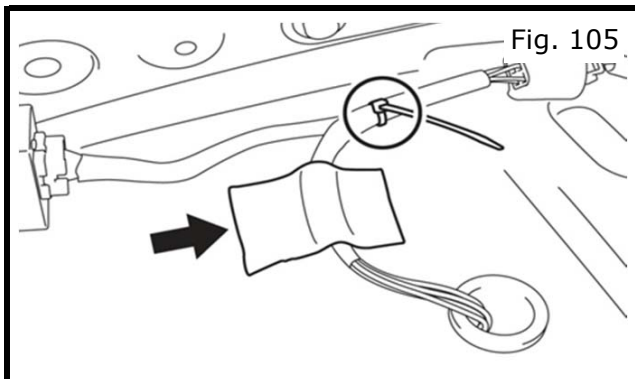

Fig. 105
- a) Secure the exterior sub harness with one (1) cable tie to the main harness, then apply urethane tape over the exterior sub harness to secure it to the body as shown in Fig. 105.